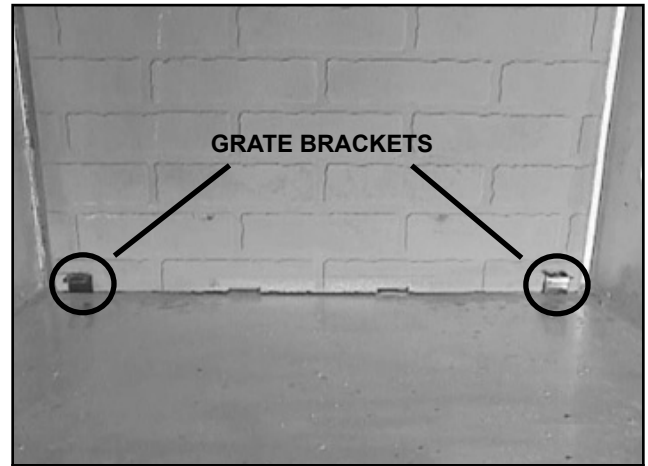

Figure 4.13 Back Refractory with Grate Brackets in Place
- Install back refractory, making sure refractory is centered and notches are to the bottom of firebox. Place grate brackets in outer two notches of refractory. See Figure 4.13.